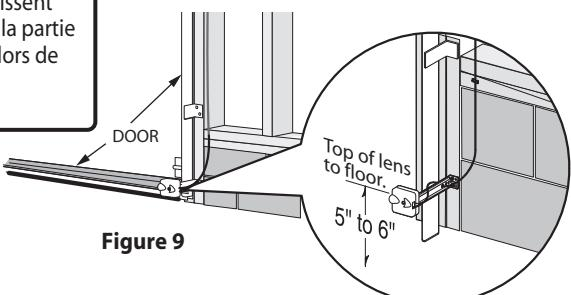

Figure 9
- Determine location for mounting. They do not need to be directly adjacent to the door but must be somewhere along the wall where there will be an unobstructed line between them. **Fig. 9.**